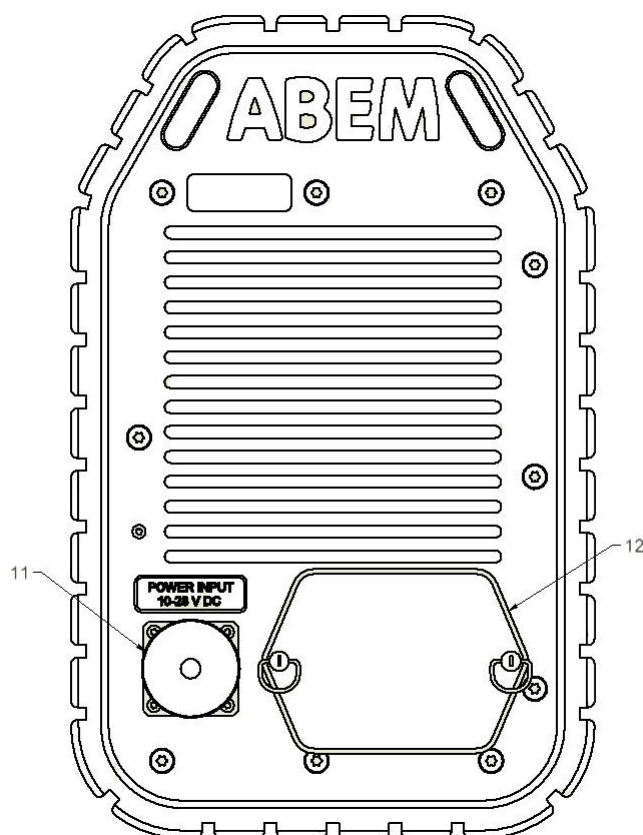

Figure 3 The Power panel
The power panel of the Terraloc Pro 2 is shown in Figure 3. The Power Input connector is described in more detail in chapter 10 Appendix B. Connectors.
- Connect the power supply (see Figure 3 connector 11) and switch on the instrument by pressing <POWER>